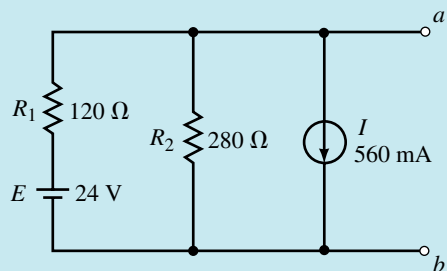

FIGURE 9–39
Step 3: After zeroing the sources, we have the network shown in Figure 9–40.